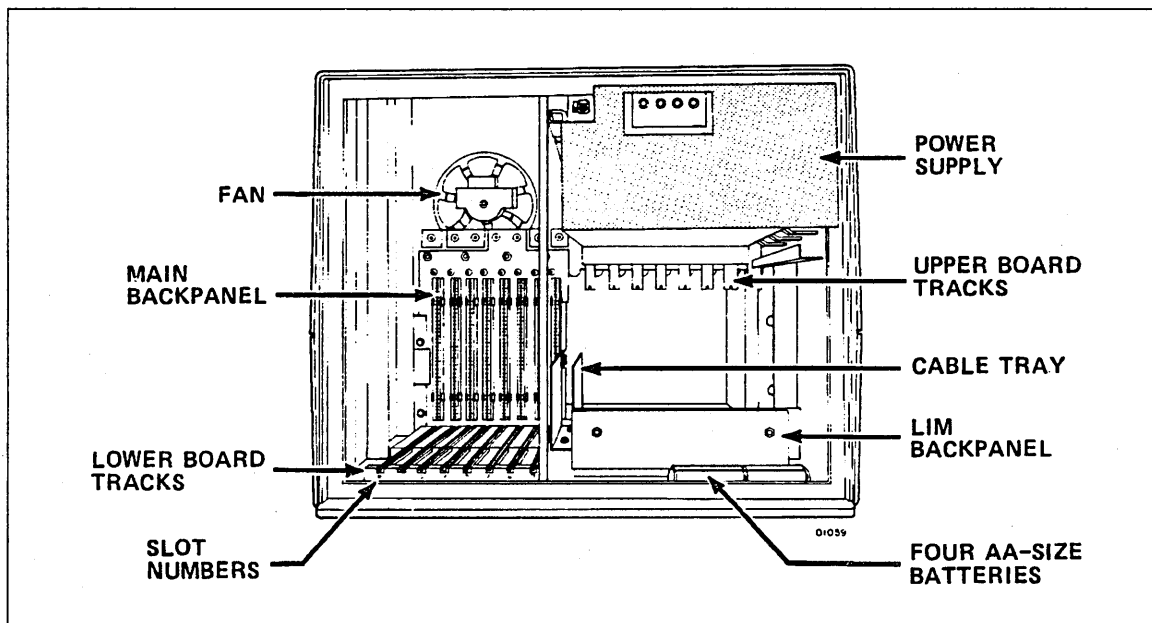

Figure 1-5. DI Cabinet Major Components - Front View
4. With the cabinet door open, refer to figure 1-5 to identify the major cabinet components that are referenced in the remainder of this chapter.
5. Check that the four AA batteries are installed on the battery holder; the location of the batteries is shown in figure 1-5. When batteries require replacement, use only alkaline type.